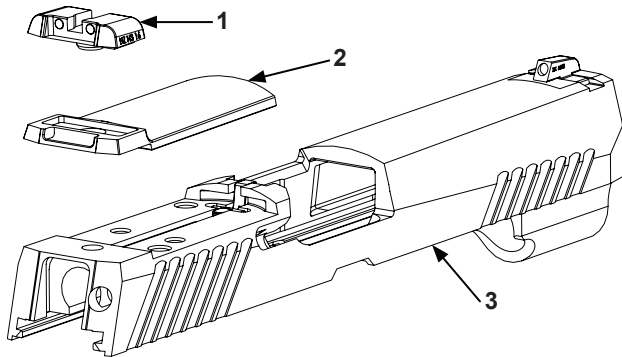

Figure 8. Removal of Sight Plate
- Remove rear sight base assembly (Figure 8, Item 1), sight plate (Figure 8, Item 2) from slide (Figure 8, Item 3).